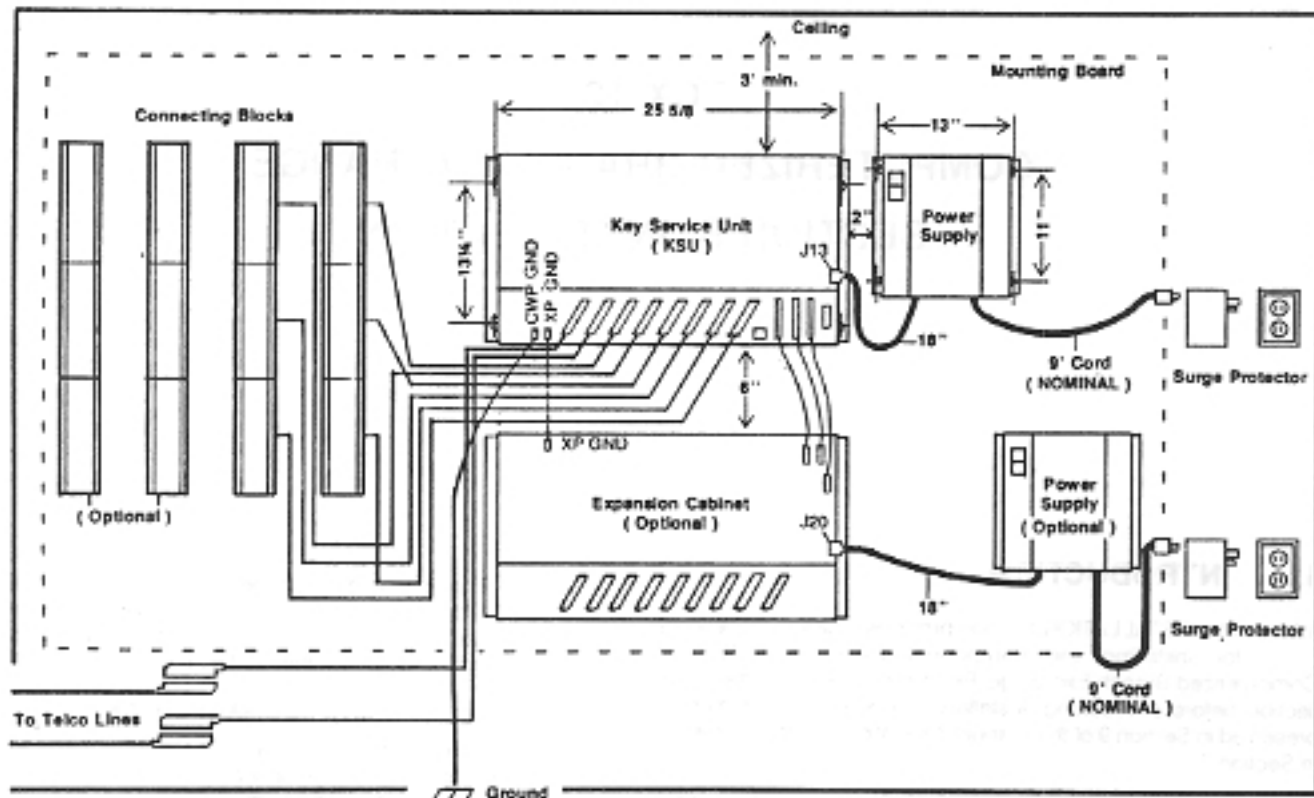
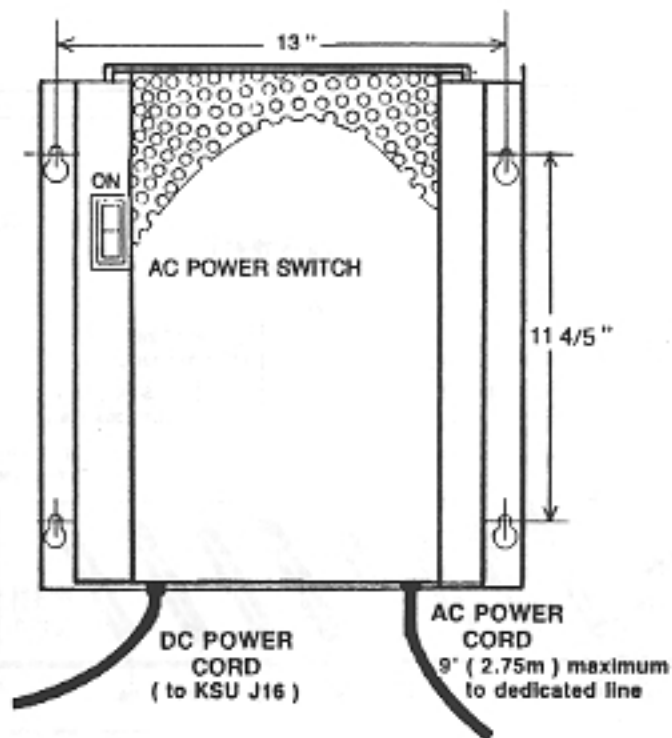

Figure 5-1 INSTALLATION LAYOUT, TCX-128
Figure 5-2 POWER SUPPLY, B-PSU-A
**2.01** The area for mounting the Key Service Unit (KSU) and related control equipment should be clean, dry, temperature controlled, and accessible only to authorized personnel. The site should be away from static electricity (dry copiers), caustic chemicals and heavy machinery. There should be ample room to mount and maintain the equipment (Figure 5-1).
3.03 Attach the plywood backboard with appropriate fasteners and mark the equipment layout on the board ( Figure 5-1 ).
3.05 Mount the power supply or supplies on the backboard in the proper location ( Figure 5-1 ). The power supply ( Figure 5-2 ) is convection cooled and must be installed with the cables at the bottom of the unit. Table 5-2 shows electrical specifications. If two power supplies are installed, they should be staggered as much as possible to prevent overheating. The upper unit must be at least 3 feet ( 0.9m ) from the ceiling.
- Mark four points on the backboard for each power supply that correspond to the dimensions between the mounting hole centers ( Figure 5-1 ).
3.07 Mount the KSU and Expansion Cabinet on the backboard to the left of the power supplies ( Figure 5-1 ). The KSU should be within 2 inches ( 5.1cm ) of its power supply. The Expansion Cabinet is mounted within 6 inches ( 15.4cm ) directly below the KSU. The lower power supply should be as far to the right of the Expansion Cabinet as the 18 inch DC power cable will allow without tensioning cable.
- Mark four points on the backboard for the each cabinet that correspond to the dimensions between the mounting hole centers ( Figure 5-1 ).
3.09 Connecting blocks are used to cross-connect station cable. The number of blocks is dependent on the number of extensions to be included in the system. See Table 3-3. Mount the 66M1-50 connecting blocks to the left of the KSU ( Figure 5-1 ).